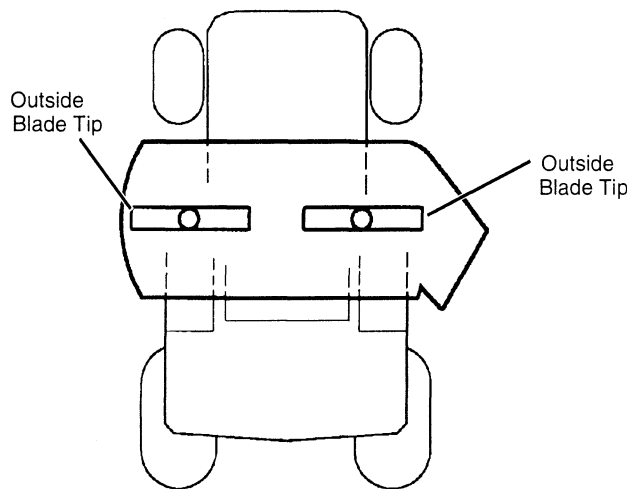

FIG. 43
- Measure height from level surface to outside blade tip on left and right blades. (See Fig. 43) Difference between measurements should not exceed 1/4 in. (6 mm).